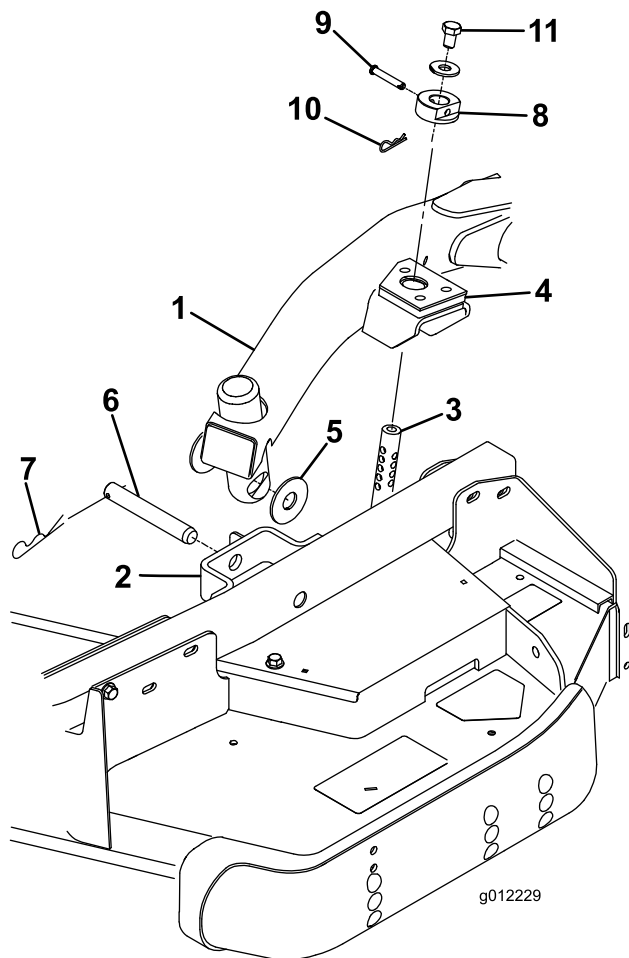

Figure 3
2. Move the lift lever to the Float position. Push a lift arm down until the holes in the lift arm line up with the holes in the castor arm bracket and the height of cut rod can be inserted into the lift arm pads (Figure 3).
3. Secure the lift arm to the castor arm with (2) thrust washers, a clevis pin and a hair pin cotter. Position the thrust washers between the lift arm and the castor arm bracket (Figure 3). Insert end of cotter pin into the slot in the castor arm tab to retain cotter pin.
7. Install the height of cut collars onto the height of cut rods and secure with the clevis pins and hair pin cotters (Figure 3). Head of clevis pin to be positioned toward the front of the deck.
8. Install a 1/2 x 3/4 inch bolt and a washer to top of each height of cut rod (Figure 3).